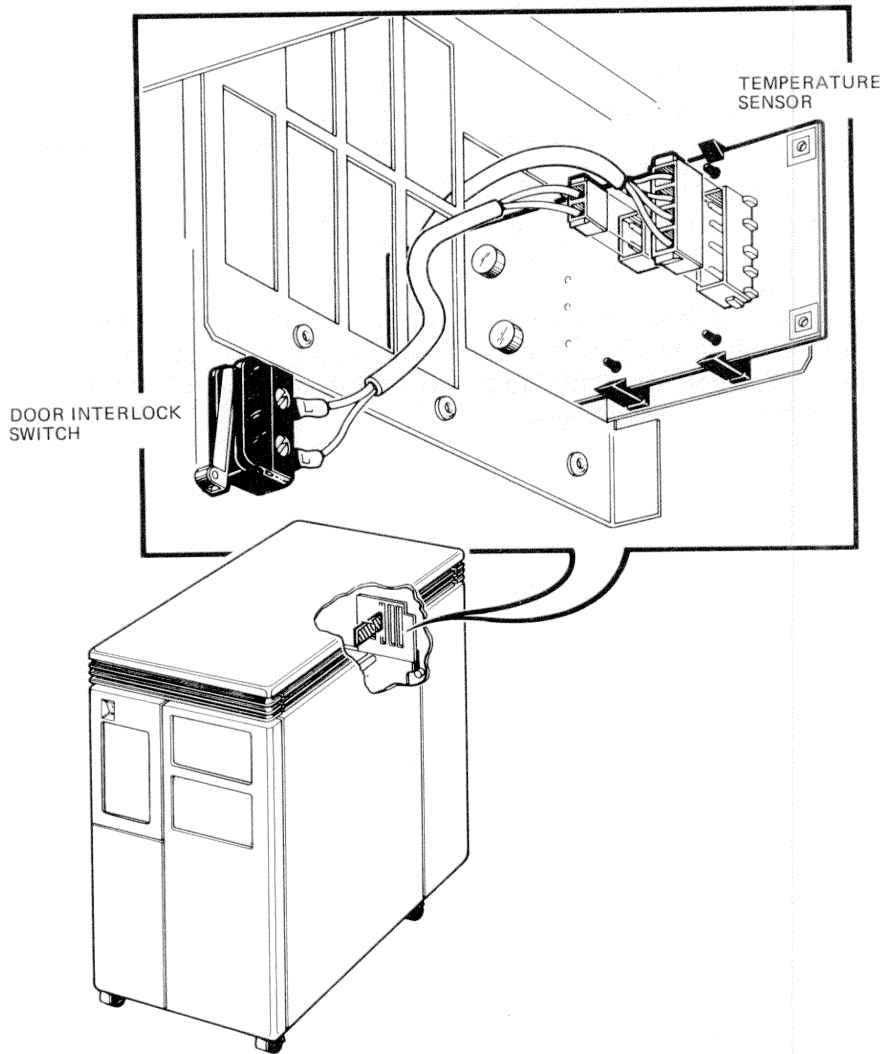

Figure 6-17 Temperature Sensor/Door Interlock Switch
3. There is a cable connecting the interlock switch to the temperature sensor. Disconnect this cable from the temperature tensor. (Figure 6-17)
3. There is a cable connecting the interlock switch to the temperature sensor. Disconnect this cable from the temperature sensor. (Figure 6-17)